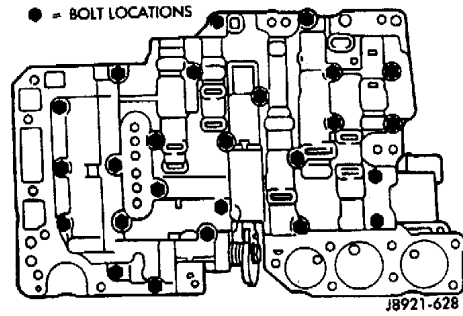

Fig. 5 Valve Body Bolt Locations
- (6) Remove 1-2 shift valve retainer and remove valve plug, valve spring and valve (Fig. 5).
- (7) Remove primary regulator valve as follows: